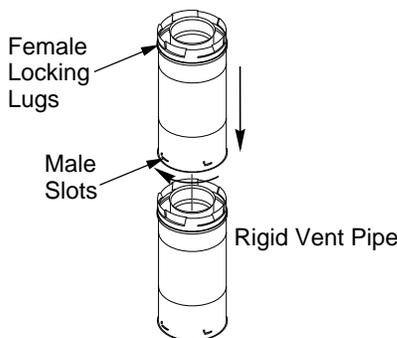

Figure 20 - Vent Pipe Connections
Twist-lock Procedure: The female ends of the pipes and fittings have four locking lugs (indentations). These lugs will slide straight into matching slots on the male ends of adjacent pipes and fittings. (All connections must be sealed with high temperature silicone sealant as specified in the second warning statement on page 11.) Push the pipe sections together and twist one section clockwise approximately one-quarter turn until the sections are fully locked. See Figure 20, page 13.
2. Assemble the desired lengths of pipe and elbows necessary to reach from the burner system flue up through the firestop. All connections must be sealed with high temperature silicone sealant as specified in the second warning statement on page 11. Be sure all pipe and elbow connections are fully twist-locked (see Figure 20, page 13).